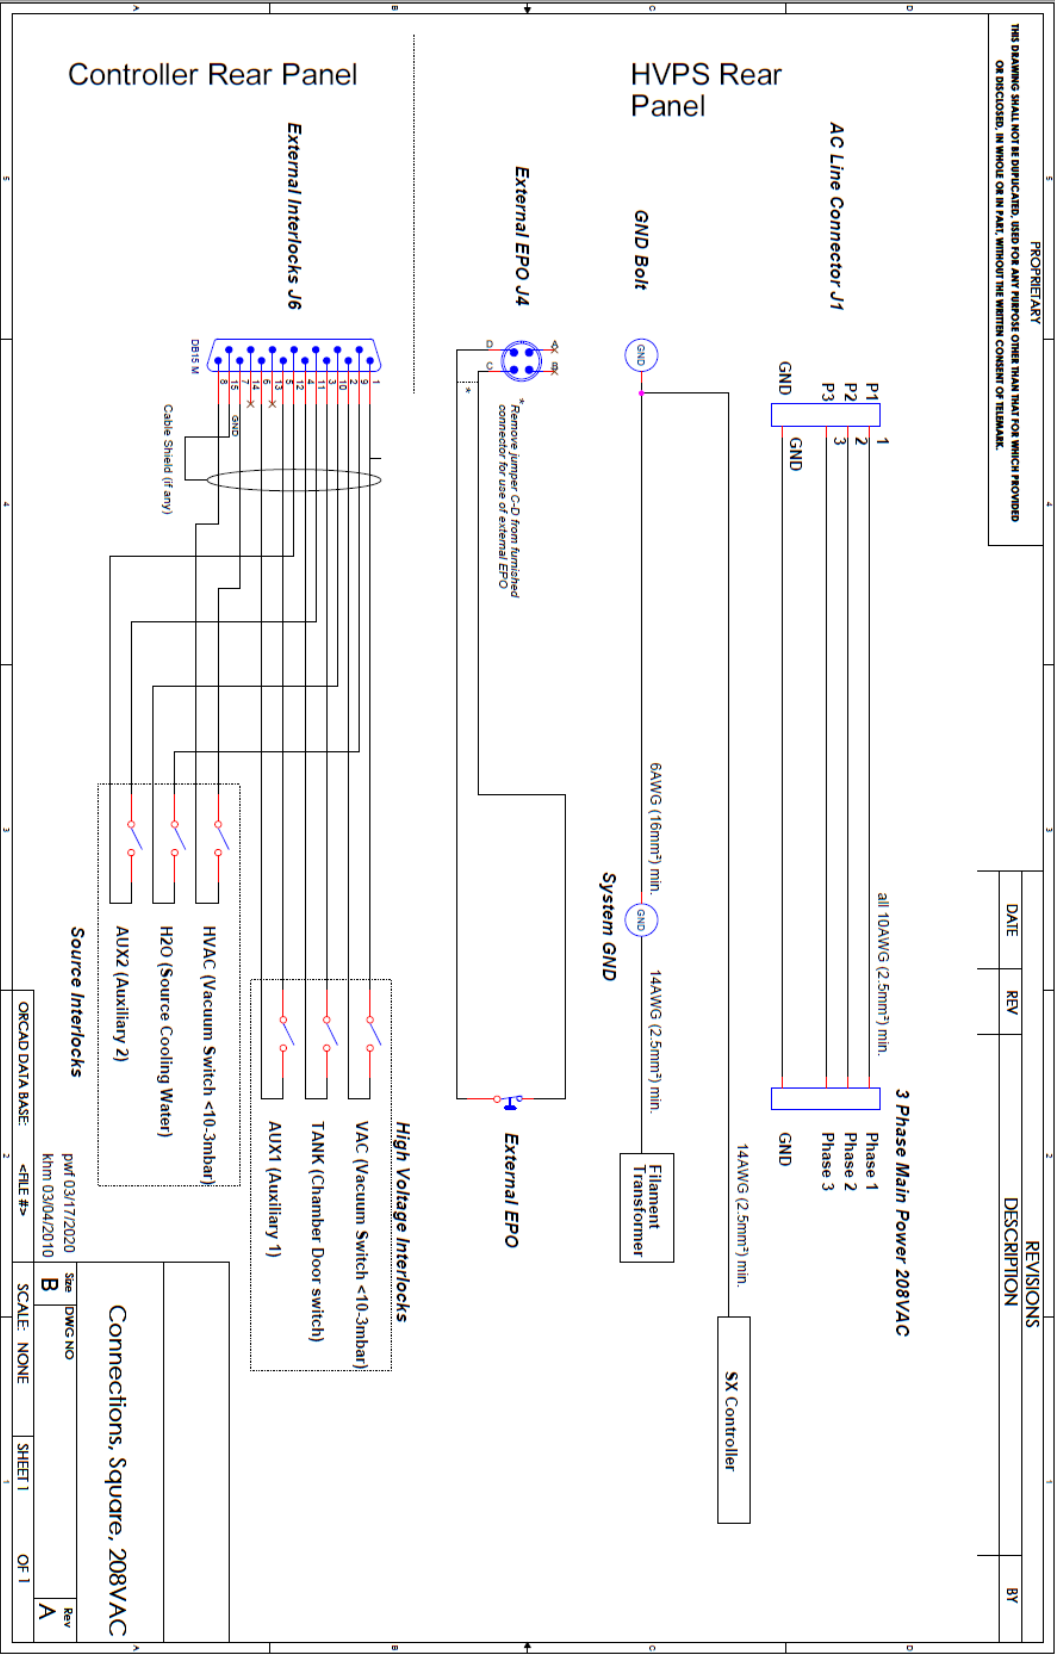

Figure 9-3, , Connections SVA series 208VAC Square Version
- Figure 9-3 Connector, 400VAC Connections SVA-4/6/8/10/12,